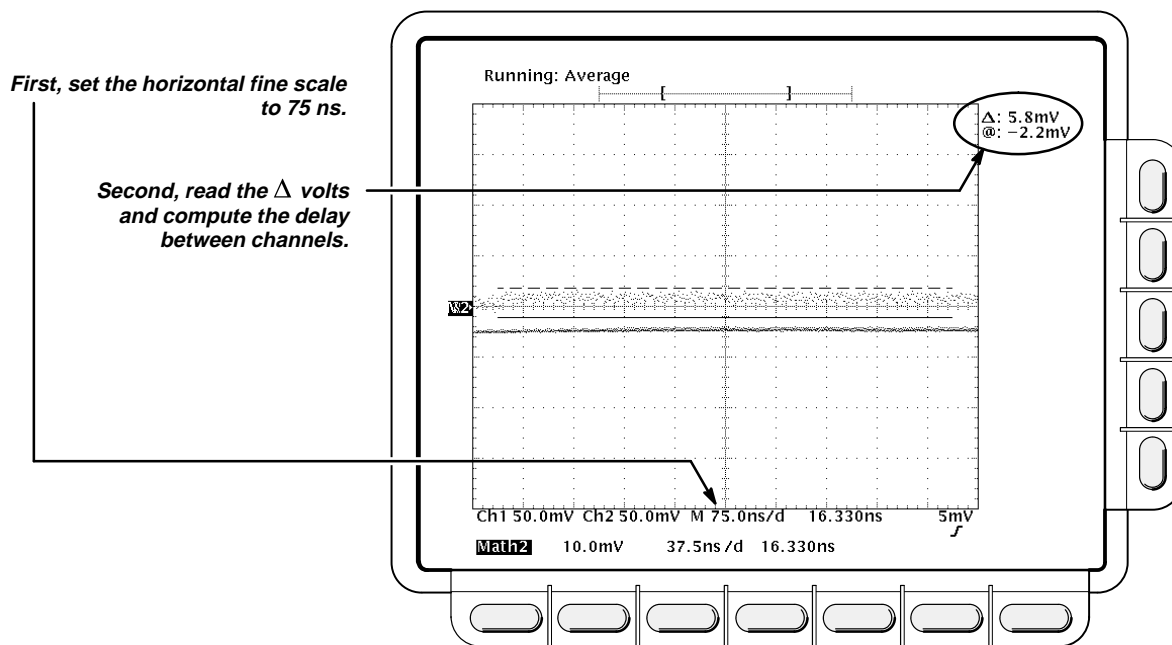

Figure 1-13: Measurement of Accuracy — Delta Time Measurement Between Channels
- CHECK that (see Figure 1-13):